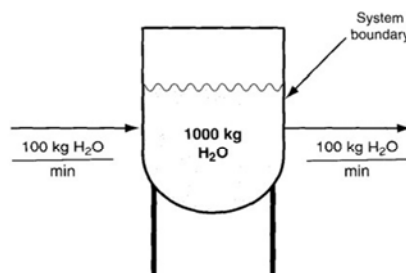

Figure 6.2 An open steady–state system.
Figure 6.2 is an example of an **open system** (also called a **flow system**) because material crosses the system boundary.
Because the rate of addition of water is equal to the rate of removal, the amount of water in the vessel shown in **Figure 6.2** remains constant at its original value (**1000 kg**). We call such a **process** or **system** a **steady-state process** or a **steady-state system** because
1. The **conditions** inside the process (specifically the amount of water in the vessel in Figure 6.2) **remain unchanged with time**, and
Equation 6.1 can apply to moles or any quantity that is conserved. As an example, look at Figure 6.7 in which we have converted all of the mass quantities in Figure 6.2 to their equivalent values in moles.